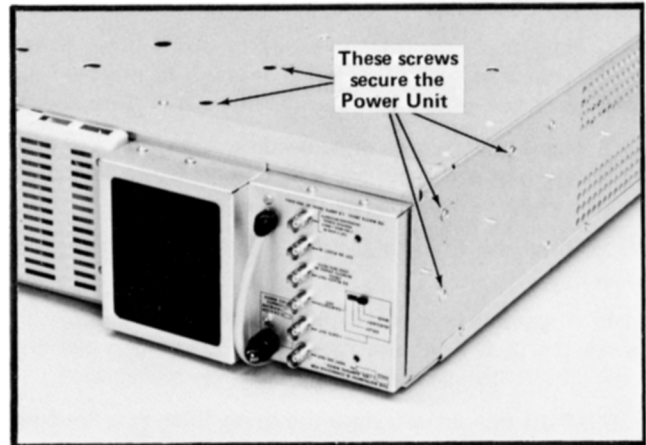

Fig. 4-1. Power unit removal for the R7613.
2. Remove the six screws which secure the power unit to the sides of the instrument (see Fig. 4-1 for locations of screws on R7613).